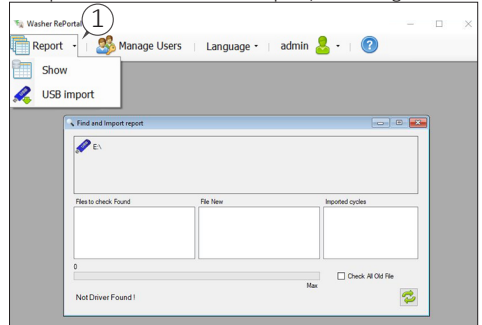

Fig. 23.6a
To import the data from the USB key, previously connected to the device in the USB port (2 Fig. 13a), and display the Report data, connect the USB key to the PC, click on the "Report" menu item (1 Fig. 23.6a) and proceed with the USB import, see image below:
Click on the "Report" menu item (1 Fig. 23.6a) and proceed with the "Show" item.